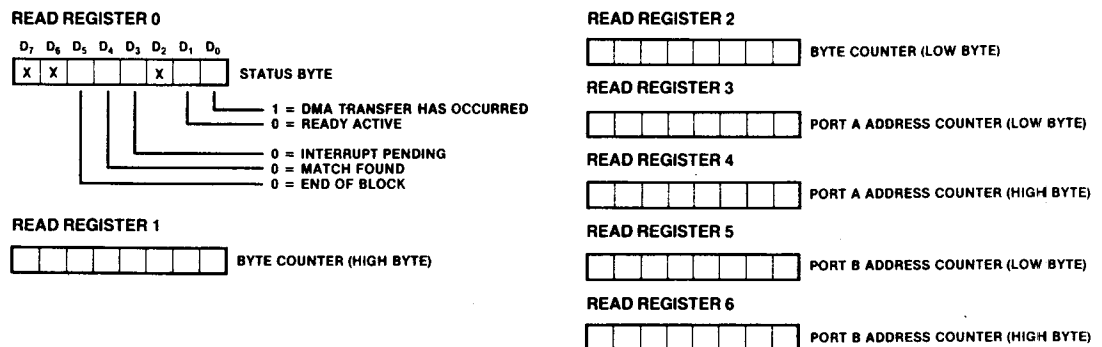

Figure 8a. Read Registers
**Reading.** (Figure 8a) The Read Registers (RR0-RR6) are read by the CPU by addressing the DMA as an I/O port using an Input instruction (such as INIR for the Z80 CPU). The readable bytes contain DMA status, byte-counter values, and port addresses since the last DMA reset. The registers are always read in a fixed sequence beginning with RR0 and ending with RR6. However, the register read in this sequence is determined by programming the Read Mask in WR6. The sequence of reading is initialized by writing an Initiate Read Sequence or Set Read Status command to WR6. After a Reset DMA, the sequence must be initialized with the Initiate Read Sequence command or a Read Status command. The sequence of reading all registers that are not excluded by the Read Mask register must be completed before a new Initiate Read Sequence or Read Status command.